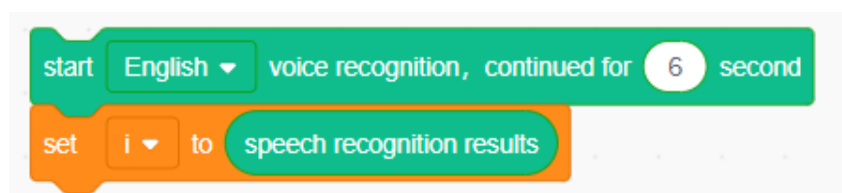

Figure 5.4 Setting the variable "i" to "speech recognition results"
Step 4: Click the "**Variables**" tab, drag the "Set i to (0)" block, click the "AI" tab, drag the "speech recognition results" block, and set the value of "i" to "speech recognition results", as shown in Figure 5.4.